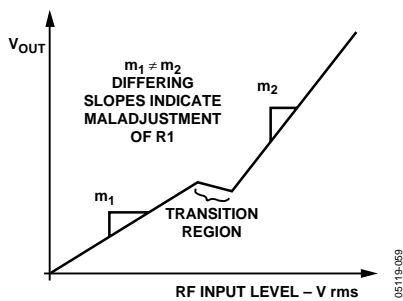

Figure 58. Slope Adjustment
3. Set R1 so that the transfer function's slopes are equal on both sides of the transition zone. This is perhaps best accomplished by making a plot of the overall transfer function (using linear voltage scales for both axes) to assess the match in slope between one side of the transition region and the other (see Figure 58). Note: it can be helpful to adjust R3 to remove any large misalignment in the transfer function to correctly perceive slope differences.